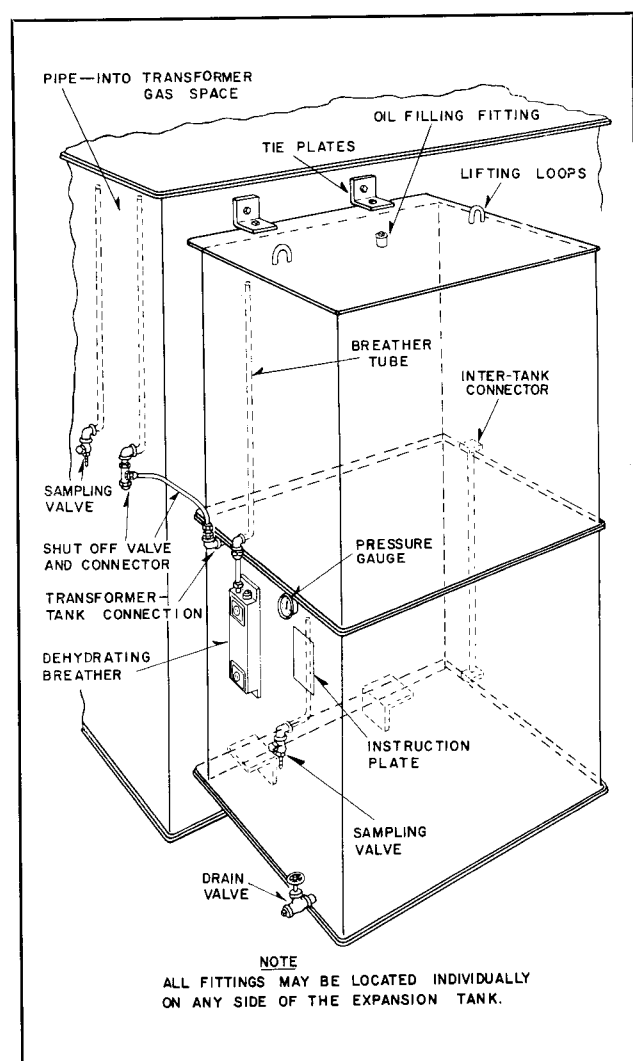

FIG. 1. Typical Installation of Gas-Oil Seal Expansion Tank
**THE GAS-OIL SEAL EXPANSION TANK** is a vertical steel tank with a horizontal portion dividing the tank in almost two equal sections. It is usually mounted on the side of the transformer tank as shown in Fig. 1 but may be integral with the transformer tank. The lower section is almost completely filled with oil with the gas space over the oil connected to the gas space of the transformer by means of a small pipe.